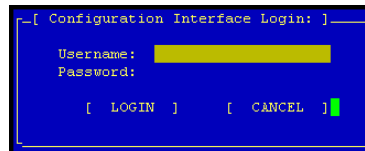

Figure 219. Enter User Name and Password
1. From the Configuration Interface entry window, press Enter to start the log in process. The Configuration Interface Login window opens, shown in Figure 219.